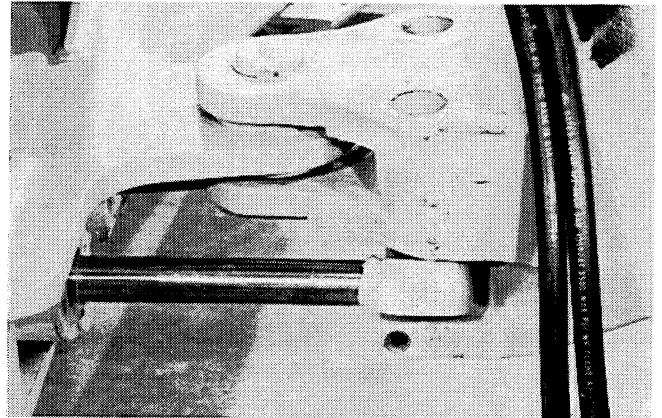

Figure 66
60. Turn the piston rod eyes of the swing cylinders as shown in Figure 66 so that the bottom pivot pin can be removed.